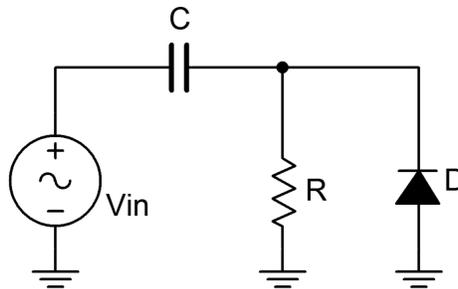

Figure 2
4. Consider the circuit of Figure 2 using  $V_{in} = 5$  volts peak at 1 kHz,  $R = 100$  k $\Omega$  and  $C = 100$  nF. Determine the input signal's period and the RC time constant. Record these values in Table 2. For a large time constant, the capacitor voltage can be thought of as stable, basically a DC voltage. Initially, this voltage is zero. On the positive input half-wave, the diode is reverse biased and all of the signal drops across the resistor. On negative portions though, the diode is forward biased, limiting the output voltage to within one diode drop of ground. Also, the capacitor will begin to charge, eventually reaching the peak voltage of the input. This potential will add a DC offset to the input signal resulting in a clamped output.
5. Build the circuit of Figure 2 using  $R = 100$  k $\Omega$  and  $C = 100$  nF. Set  $V_{in}$  to a 5 volt peak sine at 1 kHz. Set the scope inputs to DC coupled and apply the probes to the input and output points. Record the positive and negative peak values of the output waveform in Table 3.